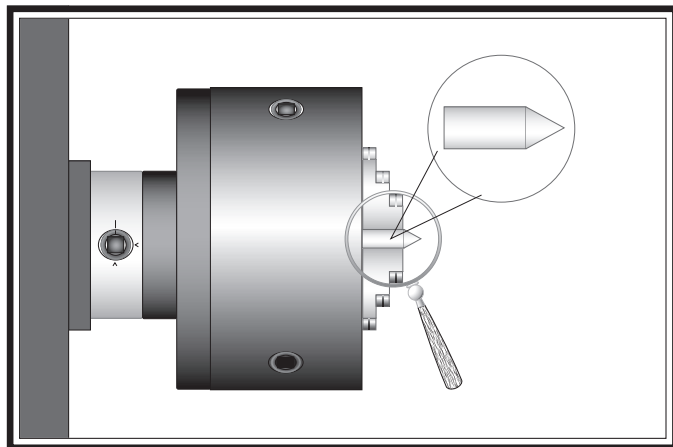

Figure 45. Turning a dead center.
- Use the other piece of round stock to make a dead center, and turn it to a 60° point, as illustrated in **Figure 45**.